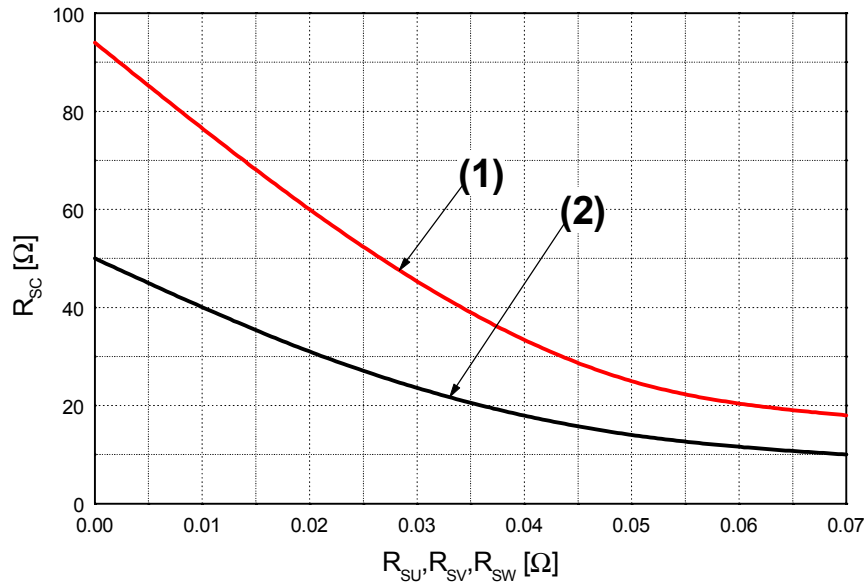

Fig. 6. R_{sc} Variation by change of Shunt Resistors (R_{SU}, R_{SV}, R_{SW}) for Short-Circuit Protection
- Short-circuit current protection is functioning only at the low-sides. It would be recommended that the value of the external sensing resistor (R_{SC}) should be selected around 50 Ω in order to make the SC trip-level of about 30A at the shunt resistors (R_{SU}, R_{SV}, R_{SW}) of 0Ω. For the detailed information about the relationship between the external sensing resistor (R_{SC}) and the shunt resistors (R_{SU}, R_{SV}, R_{SW}), please see Fig. 6.